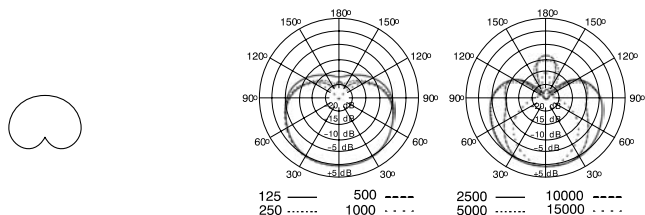

FIGURE 5. TYPICAL CARDIOID POLAR PATTERN
**Cardioid.** Picks up sounds directly in front of the microphone and is least sensitive to those in back. Cardioid is the most commonly used pattern in studio recording and live-sound applications. See Figure 5.